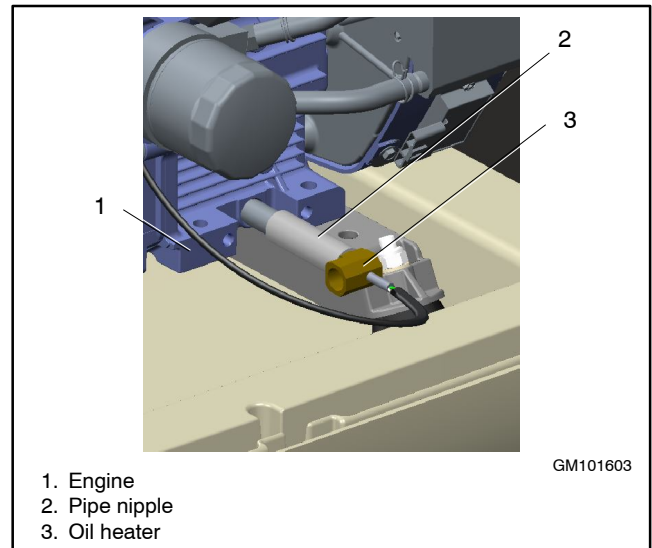
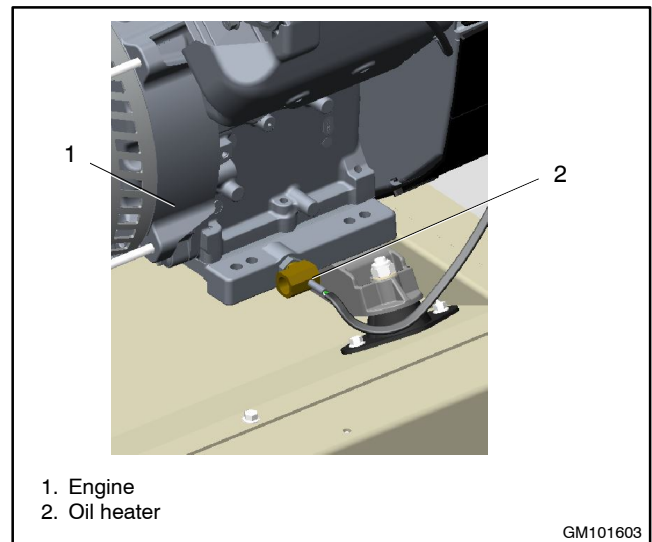

Figure 17 Oil Heater, 14RESA(L)
Figure 18 Oil heater, 20RESC(L) and 20RESD
24. Install the oil heater (GM101484, GM101485, GM101486, or GM101487) on the engine. See Figure 17 and Figure 18.